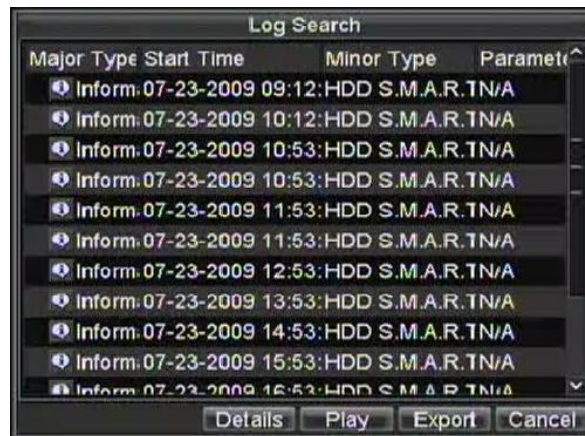

Figure 5. Log Search Results
5. Click the Search button to begin log search. A result list, similar to that of Figure 5 will be returned.